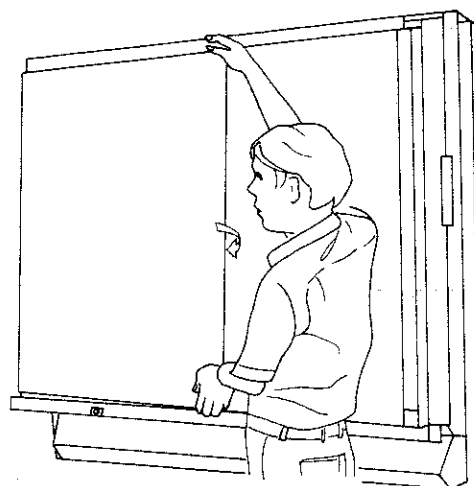

Figure 27
- (11) Lift up the white sheet bobbin and draw it out from the lower white sheet holder.
- (12) While rolling up the white sheet TIGHTLY on the bobbin which was drawn out, carry the bobbin from the right side of the board to the left side. (Figure 27)